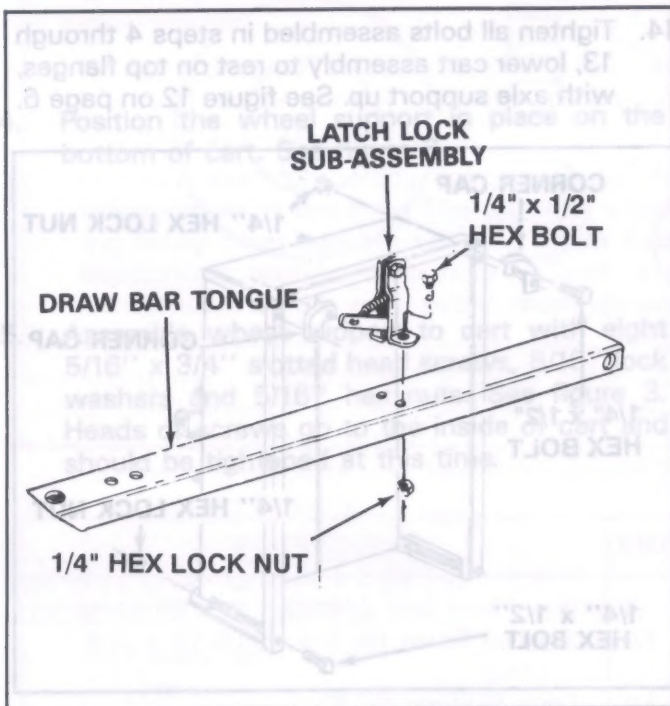

FIGURE 10
16. Assemble latch lock subassembly to drawbar tongue using 1/4" x 1/2" long hex bolt and 1/4" hex lock nuts. See figure 10.